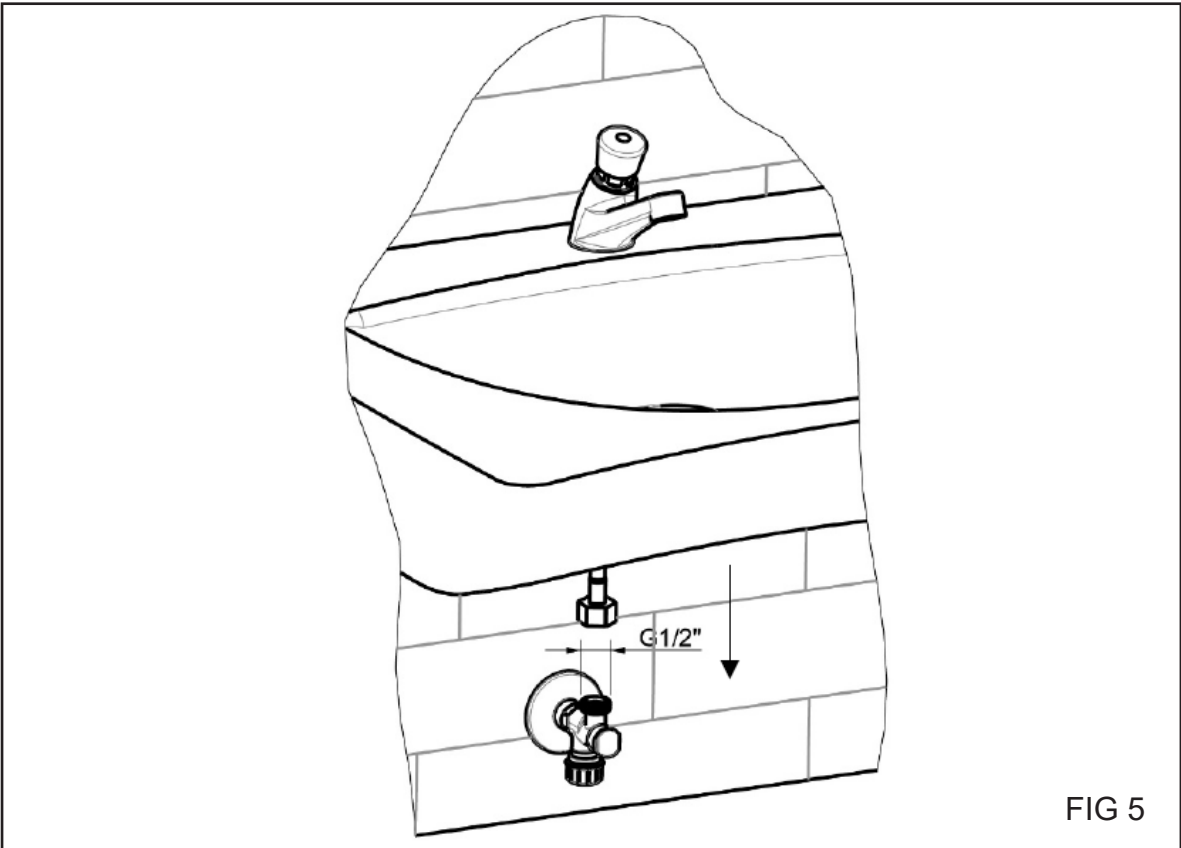

FIG 5
7. Connect flex to ½" angle valve - Fig 5.